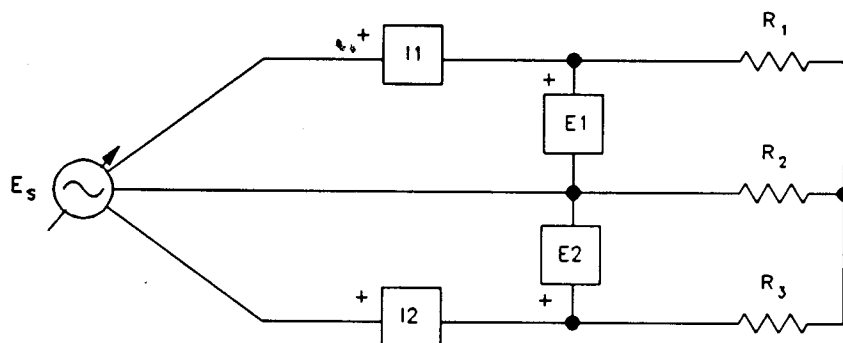

Figure 6-13. Total Power Measurement using Two-Wattmeter Method.
12. Reconnect the circuit as shown in Figure 6-13 to measure the total load power using the two-wattmeter method.